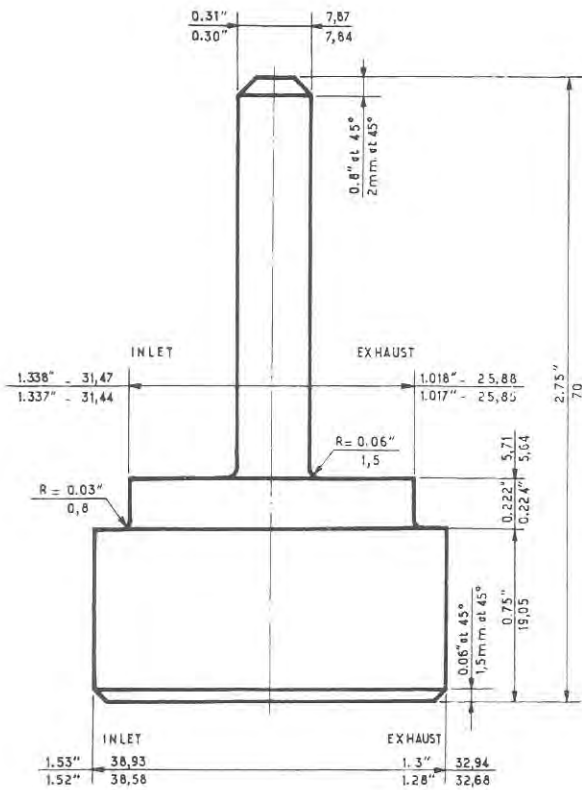

Fig. 5
- 3) With a hydraulic press fit the new valve seats in the cylinder head using adaptors made to the measurements given in Fig. 5.